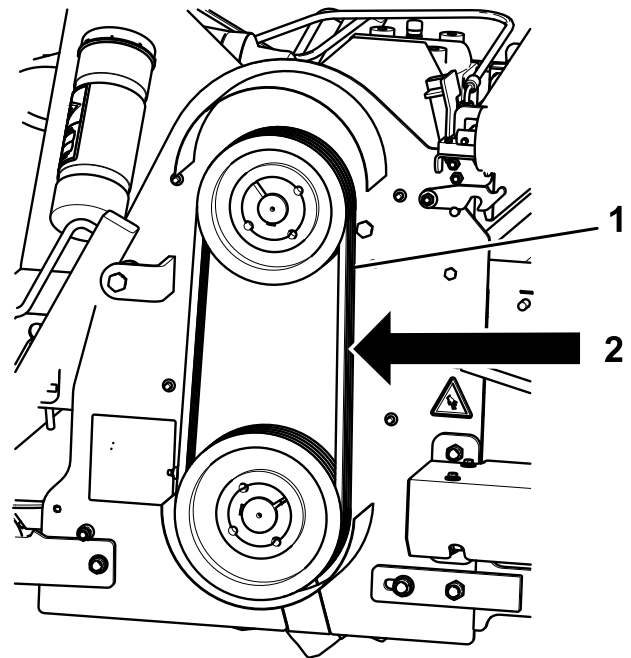

Figure 32
2. Check the tension of the V-belts by pushing point A with a pressure of 7.5 kg (16-1/2 lb). Proper tension of the belts allows 12.4 mm (1/2 inch) of deflection on each belt (Figure 32).